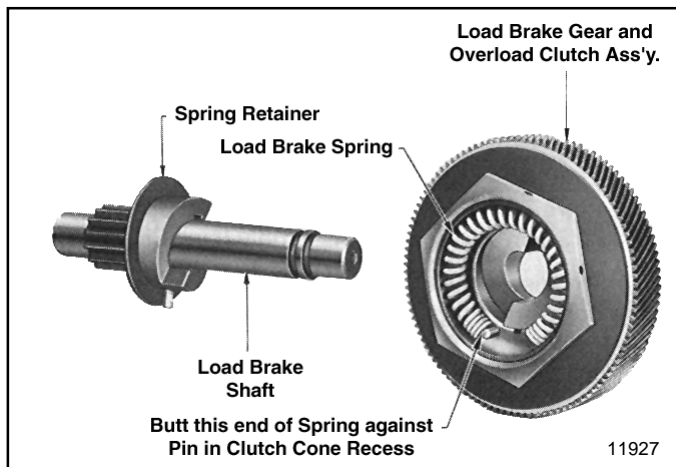

Figure 7-21. Load Brake Gear and Overload Clutch Assembly Removed from Load Brake Shaft Showing Brake Spring Installed in Clutch Cone
- (3) Remove load brake gear and overload clutch assembly from output pinion shaft. Pull the spring from its recess in clutch cone (Figure 7-21) but do not further disassemble gear and clutch assembly. See "Note" below.
Note: Disassembly of the load brake gear and overload clutch assembly (Figure 7-21) is not recommended. Clutch pressure is preset by the factory at assembly to provide the correct torque to allow the clutch to refuse loads within a specified range (110% of rated load to 180% rated load). It is suggested whenever there is a need to repair or readjust the gear and clutch assembly that it be sent to an authorized **BUDGIT** Hoist Repair Station where
- (1) Before assembly, all parts should be cleaned and inspected to determine their serviceability. Replace parts that are excessively worn or damaged.
- (2) Reassemble load brake parts following a reverse procedure of the disassembly steps listed above, observing the assembly steps (3) through (6) below.
- (3) Before installing spring in its recess in center of clutch cone (Figure 7-21) apply a good grade of ball bearing grease to inside of recess. Spring must be positioned exactly as illustrated, butted against pin.